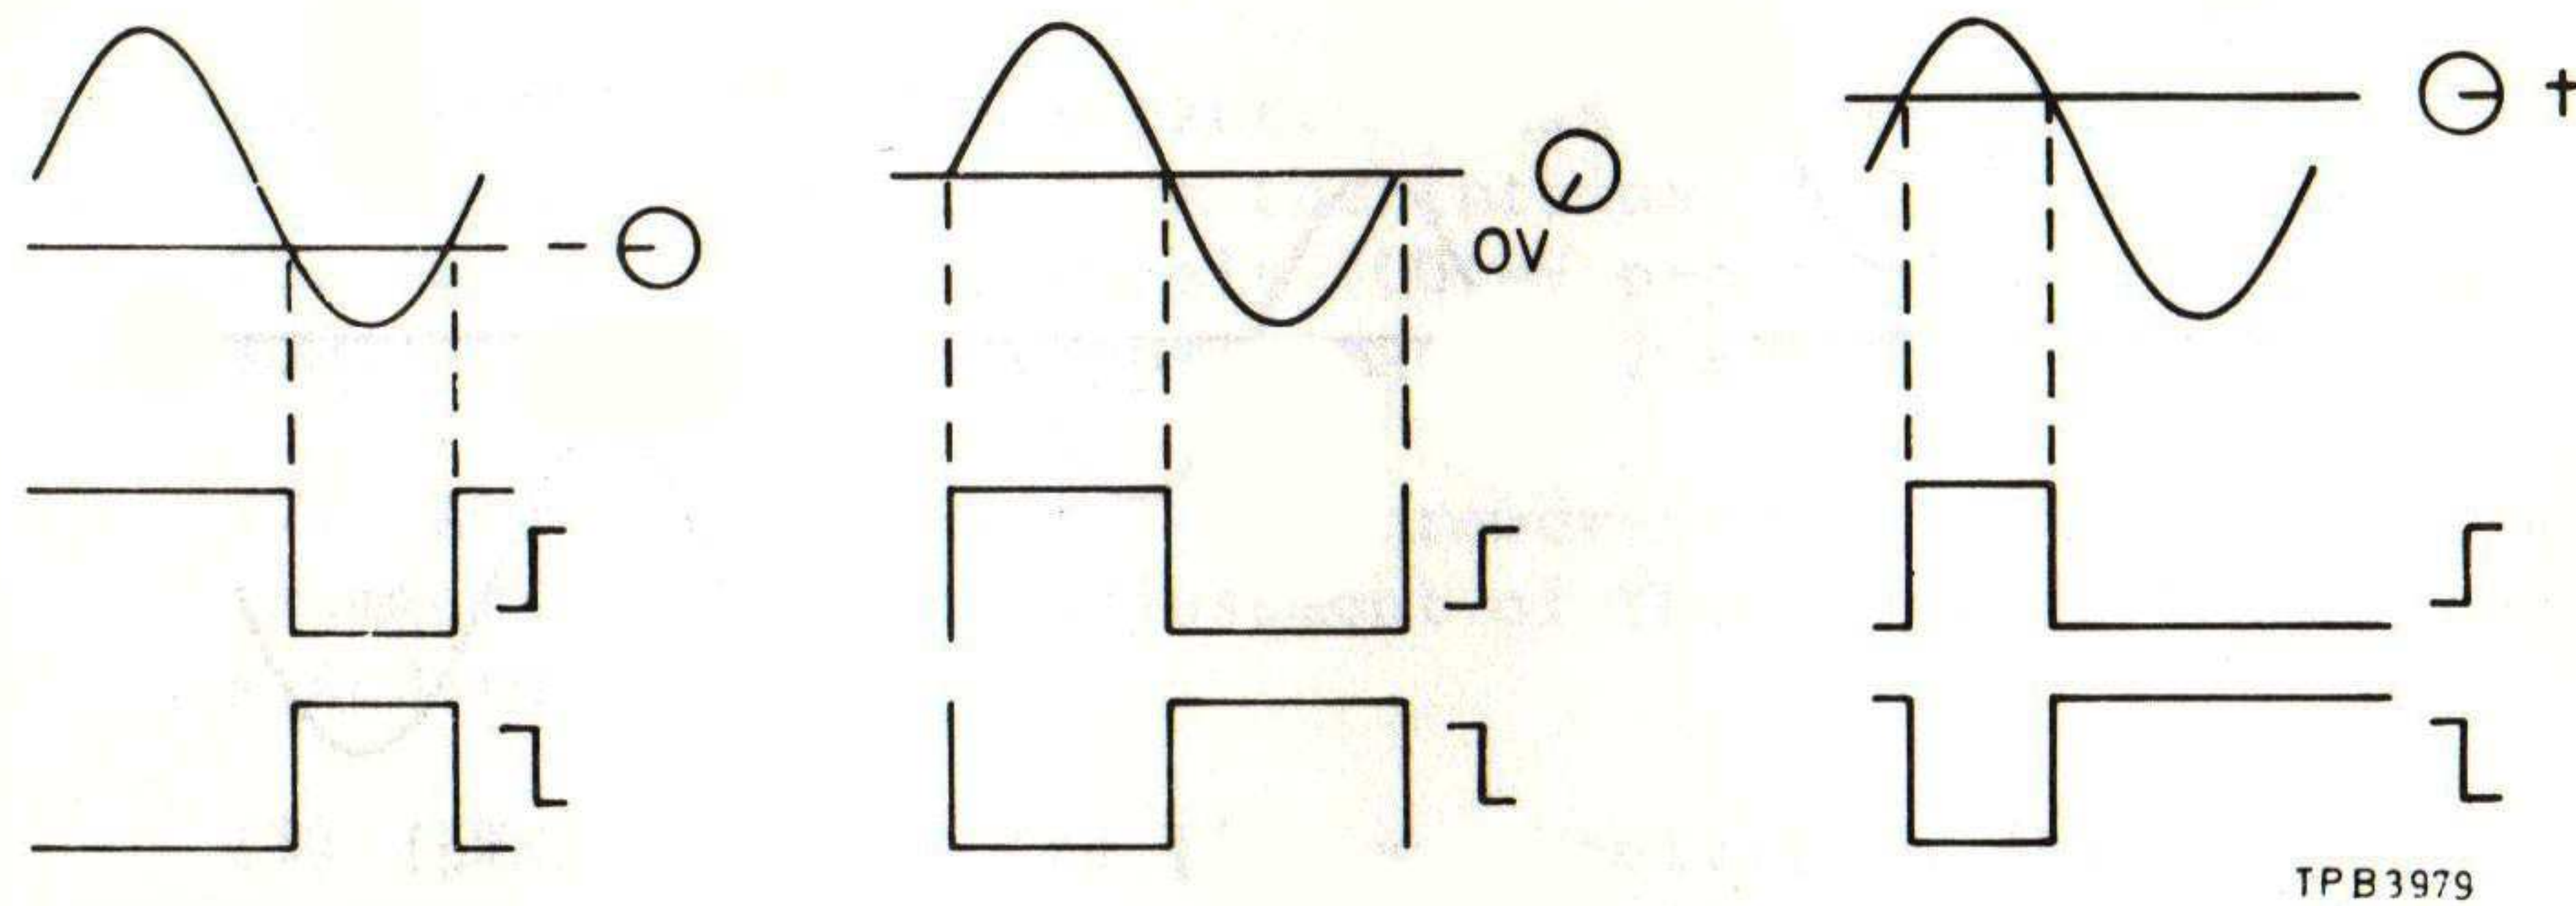

Fig. 4 Monitor output
6. Fig. 4 illustrates the action of the trigger circuit for